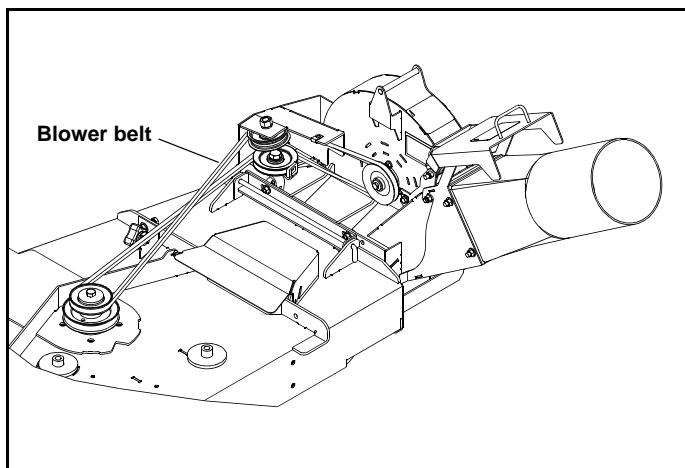

Figure 3-6
15. Install and route the blower belt around the blower pulleys and the upper pulley on the double pulley. This belt is self-tensioning. Figure 3-6